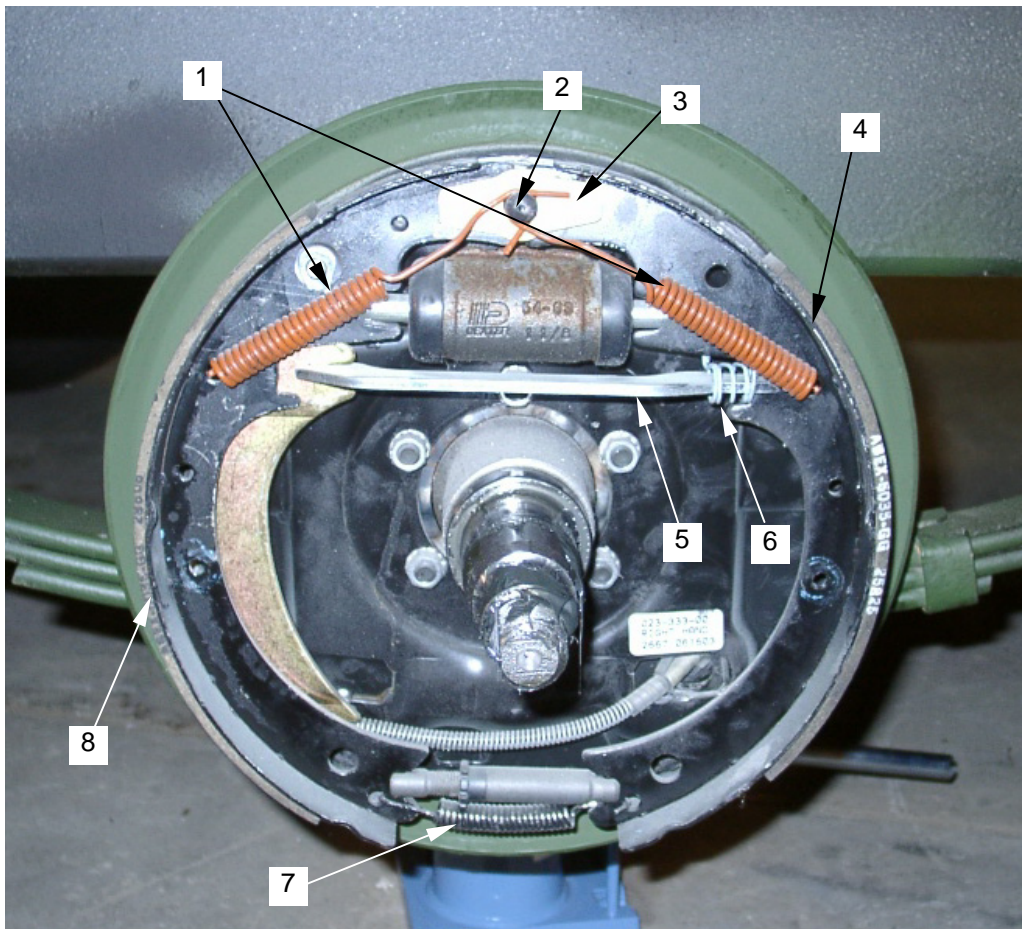

Figure 31. Brake Drum Assembly
- v. Remove retractor springs (**figure 31, item 1**) from anchor pin (**figure 31, item 2**).
- w. Remove shoe guide plate (**figure 31, item 3**).
- x. Remove primary brake shoe (**figure 31, item 4**) from wheel.
- y. Remove spreader (**figure 31, item 5**) and spreader spring (**figure 31, item 6**).
- z. Remove retractor spring (**figure 31, item 1**) and adjuster spring (**figure 31, item 7**) from primary brake shoe (**figure 31, item 4**).
- aa. Remove secondary brake shoe (**figure 31, item 8**) from wheel.
- bb. Remove retractor spring (**figure 31, item 1**) and adjuster spring (**figure 31, item 7**) from secondary brake shoe (**figure 31, item 8**).